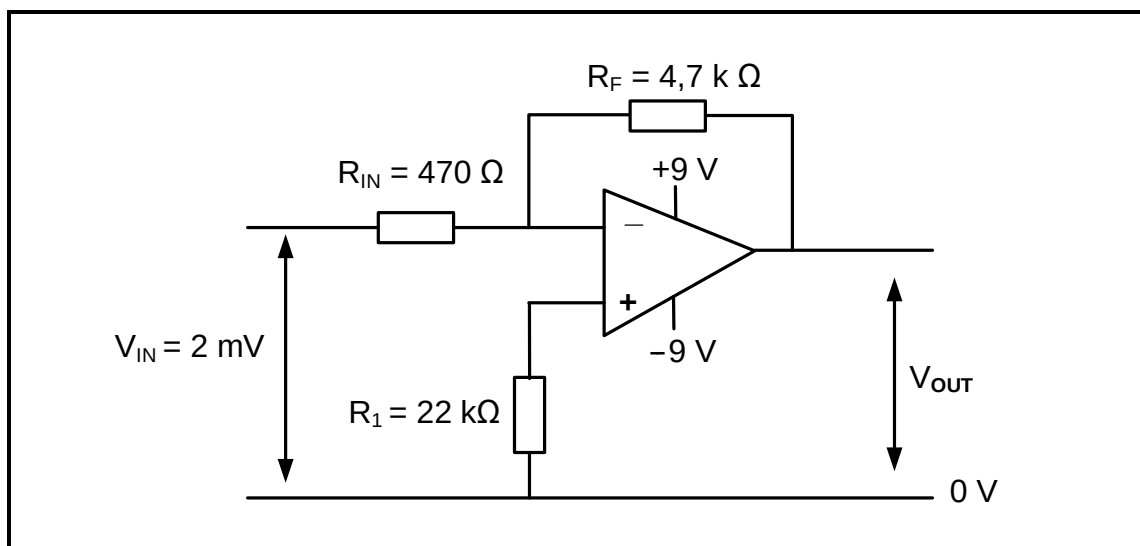

FIGURE 4.2: OPERATIONAL AMPLIFIER
4.2 FIGURE 4.2 below is an operational amplifier with an input signal voltage of 2 mV, a feedback resistor $R_F = 4,7 \text{ k}\Omega$, non-inverting resistor $R_1 = 22 \text{ k}\Omega$ and input resistor $R_{IN} = 470 \text{ }\Omega$. Answer the questions that follow.
- 4.2.1 Name the type of feedback used in FIGURE 4.2. (1)